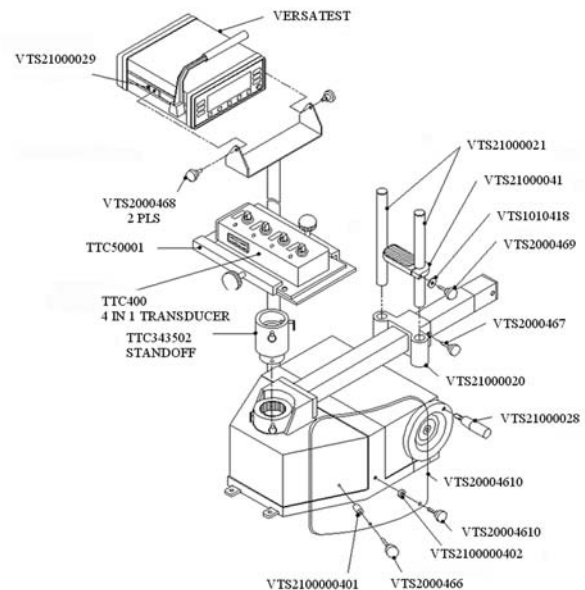

Fig. 3-3
4. Install slide (VTS21000020), load tube (VTS21000021) and the adjustable rest (VTS21000041) then lock using the side knobs as shown on Fig. 3-3.
7. For 4-in-1 unit, install 4-in-1 bracket (TTC50001) to the standoff as shown of Fig. 3-3 and insert two quick release pins (TTC19513). Slide 4-in-1 (TTC400) on the bracket and align the selected transducer over the loader drive. Tighten the left knob first, then the top knob.